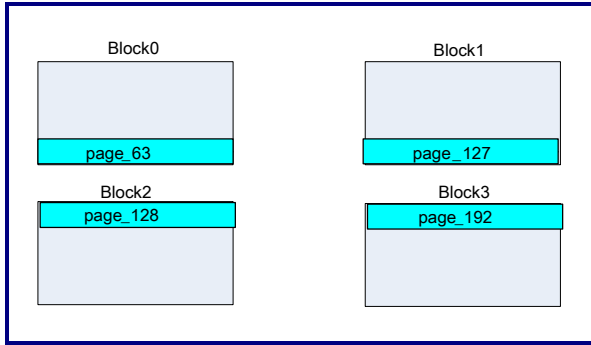

Figure 5-11. 2-plane Write 4 Pages Cross Block
- Example: As shown in Figure 5-11, block size = 64 pages. If users issue a 2-plane page write command to write four pages from page 63, this command will not be finished correctly by the host controller. Users must issue two commands; the 2-plane page writes to write two pages from page 63. Another command is from page 128.